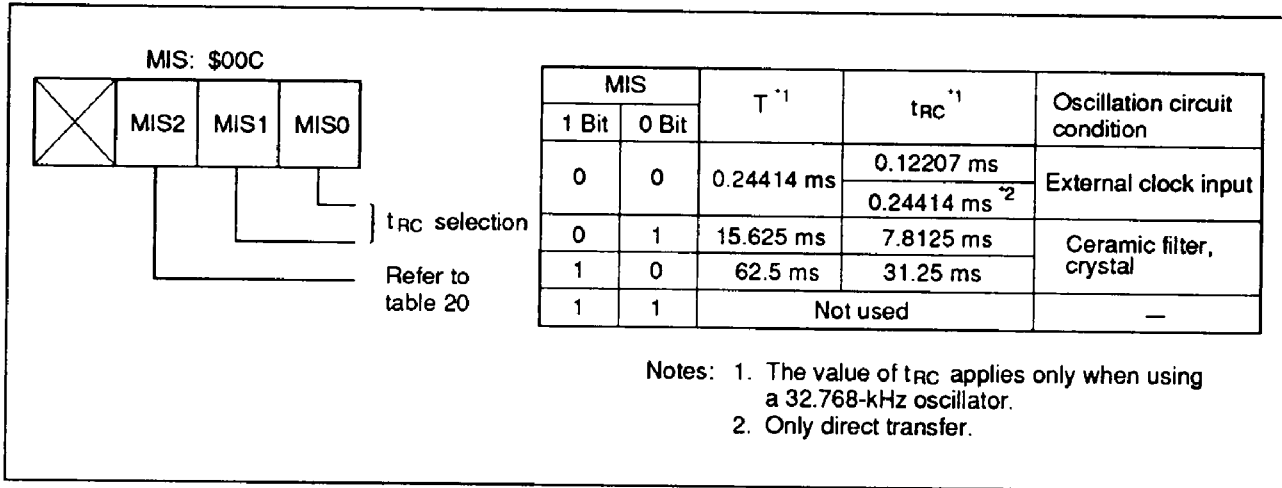

Figure 30 Miscellaneous Register
**Interrupt Frame:** In watch and subactive modes,  $\phi_{CLK}$  is supplied for timer A and the  $\overline{INT}_0$  circuit. Prescaler W and timer A operate as time bases to generate interrupt frame timing. Three interrupt frame cycles (T) can be selected by the settings of the miscellaneous register, as shown in figure 30.